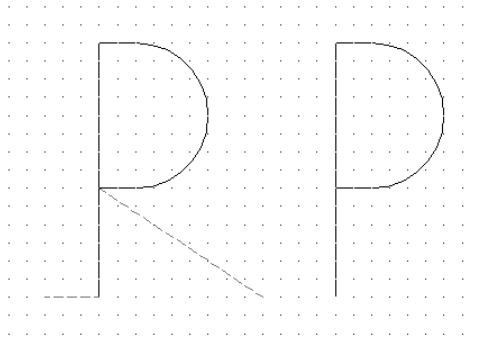

Figure 32-8: The picture and shape of the letter P.
8. Save your drawing. It should look like Figure 32-8.